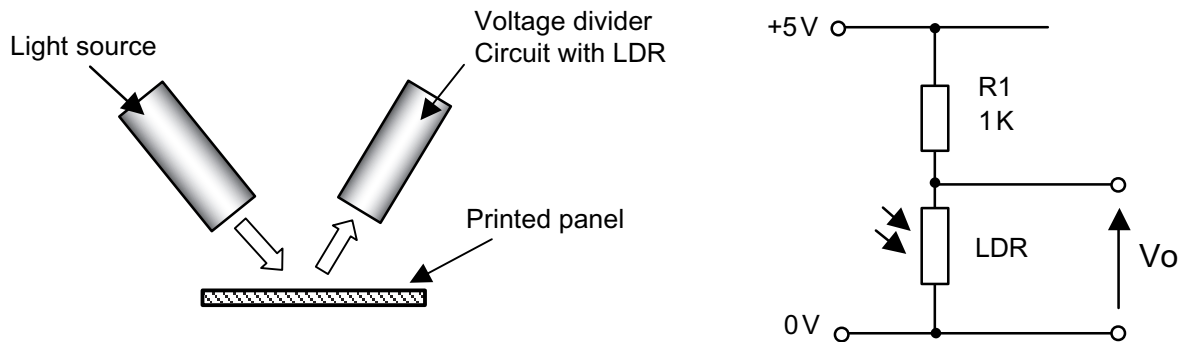

Fig. 2(b)
- (ii) The resistance of the LDR shown in **Fig. 2(b)** can vary from $80\ \Omega$ to $8\ \text{k}\Omega$. Calculate the corresponding values for V_o . [2]